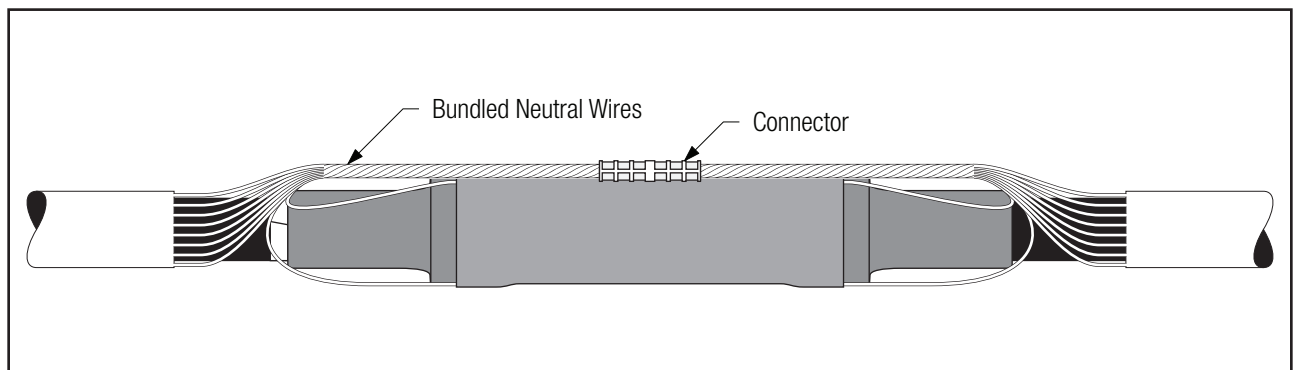

Figure 17
- 7.1 Connect neutral wires and splice wires together using an appropriate "C," "H" or butt type connector (*Figure 17*).